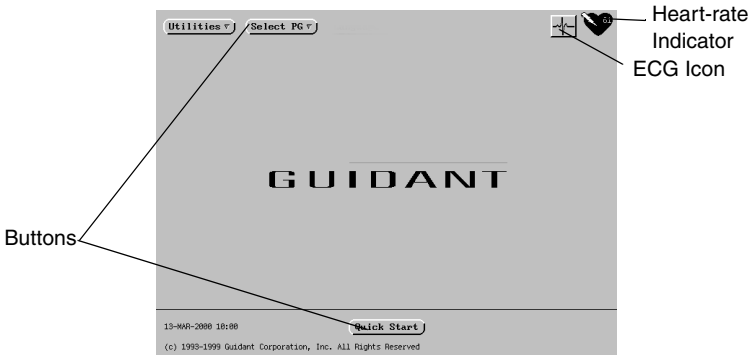

Figure 4. The startup screen is displayed when the programmer is powered On.
5. Wait for the Guidant startup screen (Figure 4) to appear.
The startup screen (Figure 4) displays the following information: